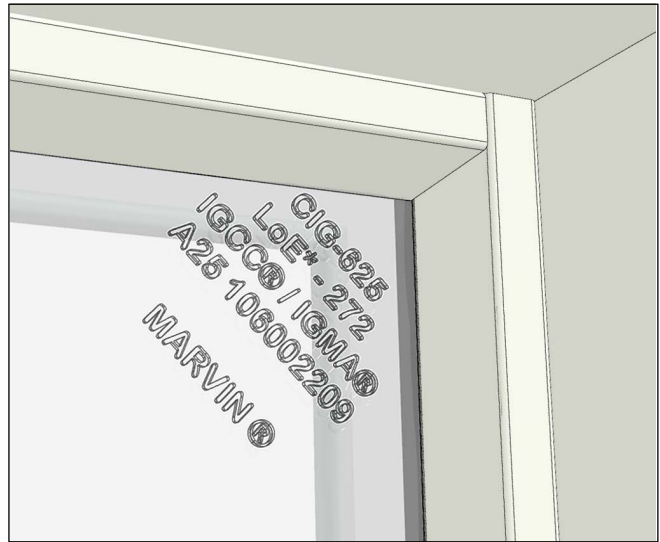

Figure 2
1. Inspect unit for any hidden damage and report immediately to your Marvin representative. Provide the customer service number etched on one of the top corners of the glass. See Figure 2.